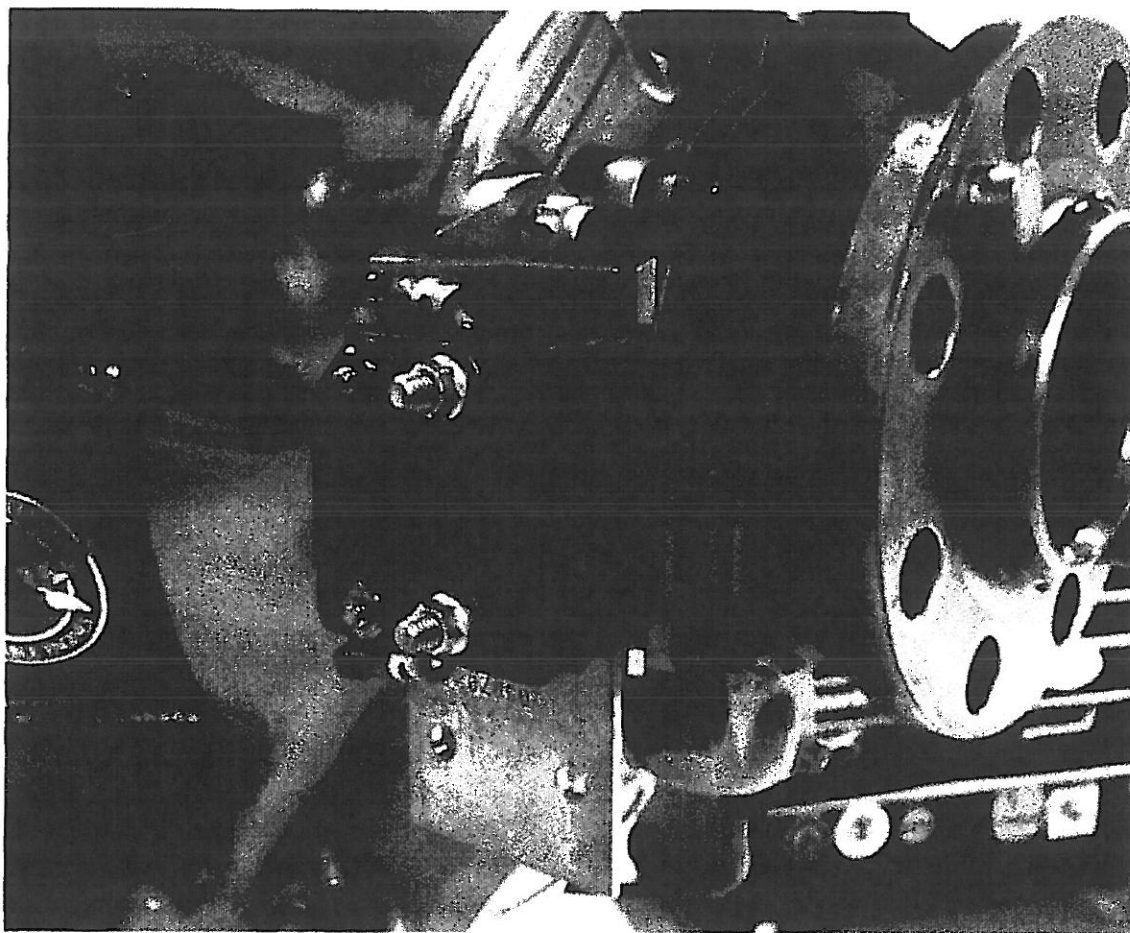

Figure 4
- E. Install P/N 105404 modular brush block assembly onto bracket using a B-3837-0332 washer and B-3869-3 nut on each bolt as shown in Figure 4. Do not torque at this time.